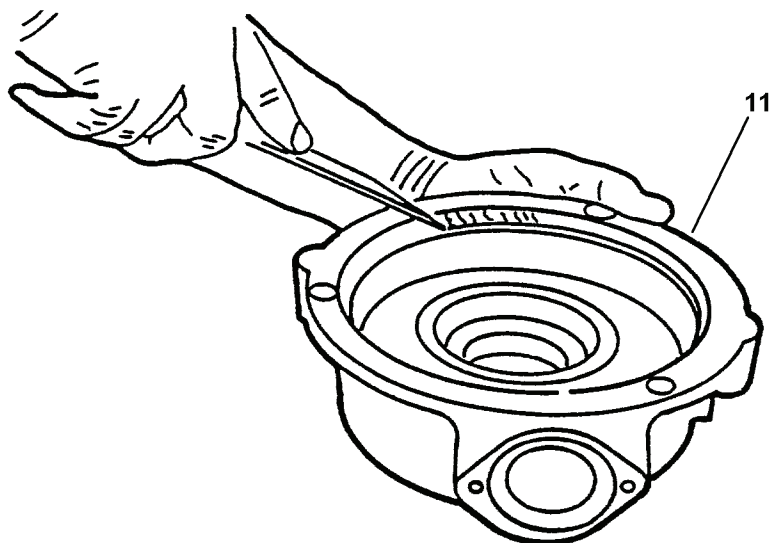
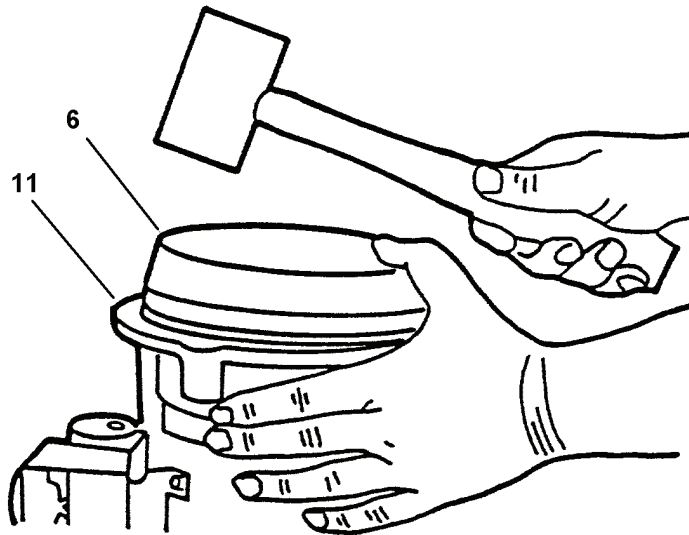

Figure 3-15. Cleaning Upper End Bell.
Figure 3-18. Reseating Stationary Shredder.
- a. Upper end bell (11) and stationary shredder (6) - Prior to reassembly, the stationary shredder and recess in the end bell (11, Figure 3-15) must be thoroughly cleaned to remove all traces of grease, dirt, and mastic. The stationary shredder was originally sealed into the end bell recess with Locktite to prevent turning. A clean rag soaked with paint remover will remove all of this residue.
Stationary Shredder. Prior to reinstalling the stationary shredder (6, Figure 3-18), it should be carefully inspected. If cracked, chipped or broken, or if excessive wear is evident, then the stationary shredder should be replaced.
To ensure a trouble free installation, the bottom surface of the stationary shredder (6, Figure 3-18) and the stationary shredder recess in the end bell (11, Figure 3-15) must be cleaned of all old mastic and dirt, to allow the stationary shredder to fit squarely in the upper end bell.
- j. Apply a coating of silicone sealant across the bottom of the stationary shredder (6, Figure 3-18) to form a seal with the upper end bell (11). Position the stationary shredder in the upper end bell, ensuring the scribe marks are aligned. Tap alternately on the upper rim of the stationary shredder (6, Figure 3-18) until it is seated fully in the upper end bell (11).